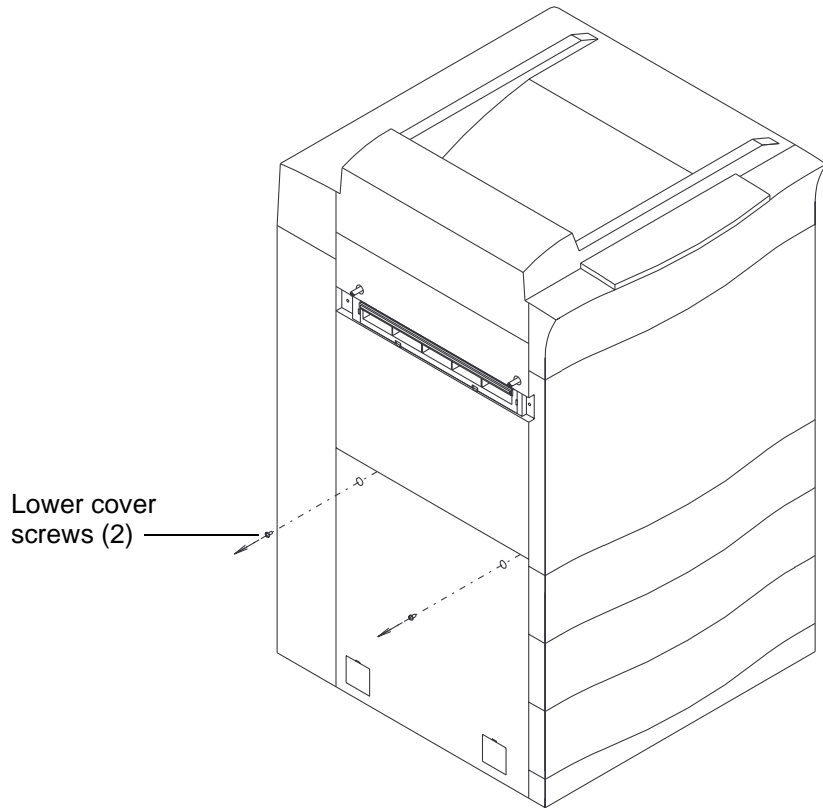

Figure 15 Removing the lower cover screws
Step 7 Remove the two screws in the lower cover. See Figure 15.